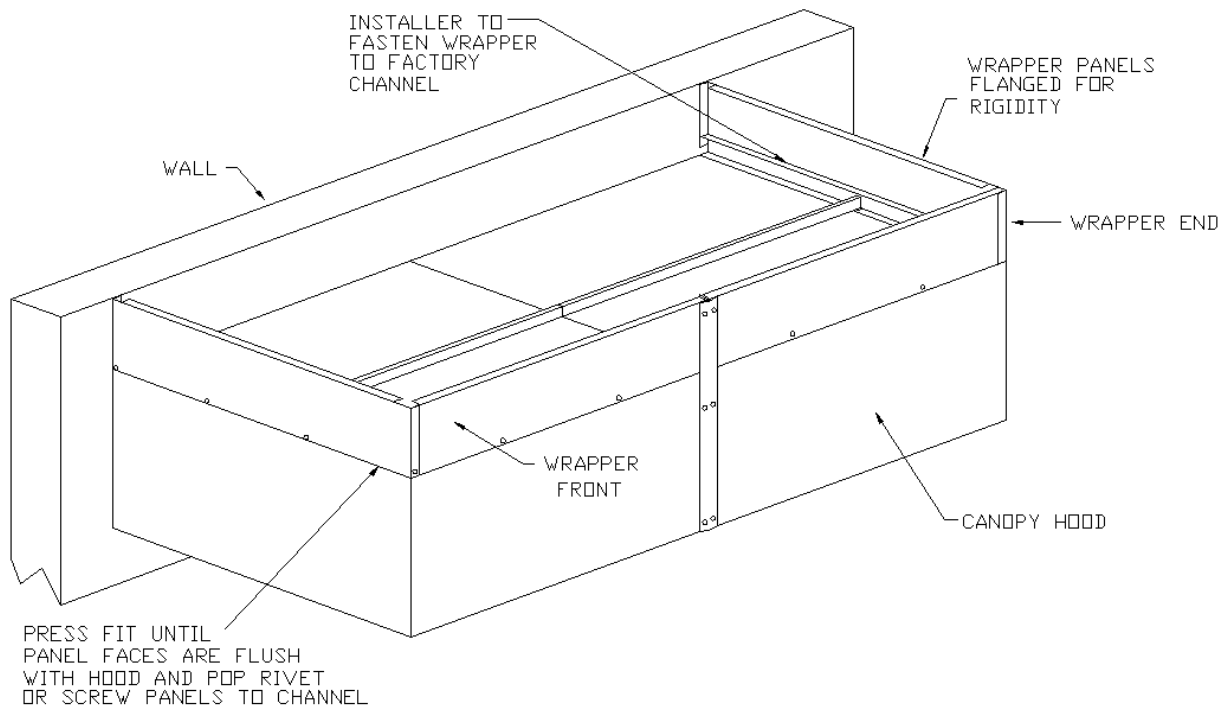

Figure 15
6. If multiple panels are used, a stainless trim piece will be provided to attach multiple panels together (i.e. hood is side to side, hood is back to back to another, or the wrapper length exceeds 16 feet). Attach the panels by slipping them behind the stainless trim and fastening with screws or rivets. **See Figure 15.** NOTE: Trim will have to be cut to fit. In most instances, trim should extend from bottom of hood to top of wrapper panel.